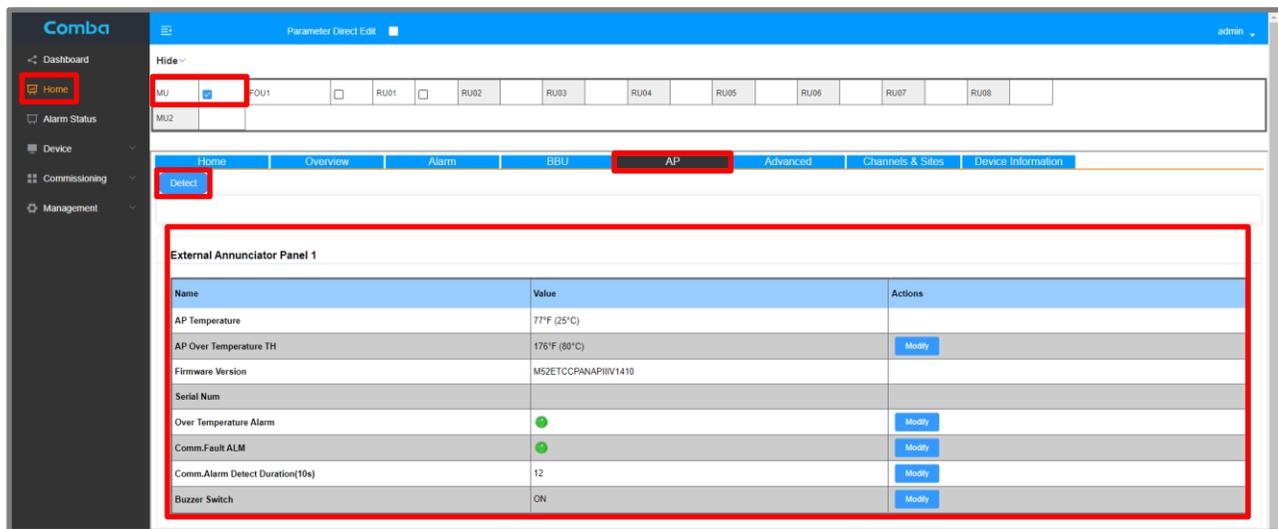

Figure 110: Commissioning V3 AP in DAS Mode
- For DAS mode, navigate to Home -> MU -> AP. For RU, Navigate through the MU to Home -> RU -> AP. See Figure 110.